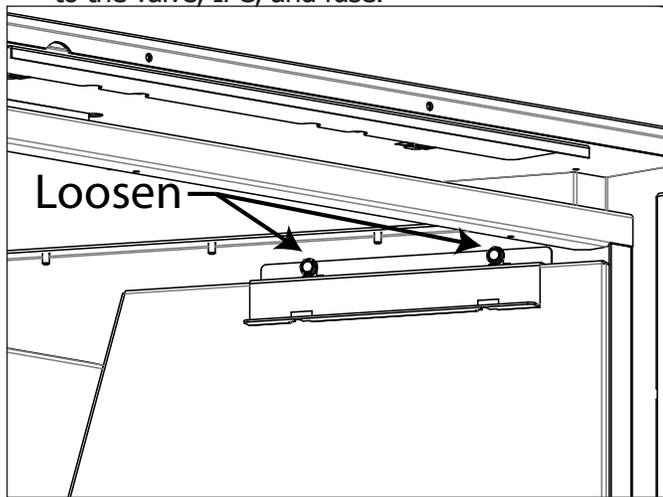

Figure 18: Liner Retainer Removal
3. A side cover can be found on the inner right side of the unit. It is held in place using two magnets. Gently pull the side panel out and away from the unit (see Figure 18).
- Pressure taps for the inlet (IN) and the manifold (OUT) *see page 48*